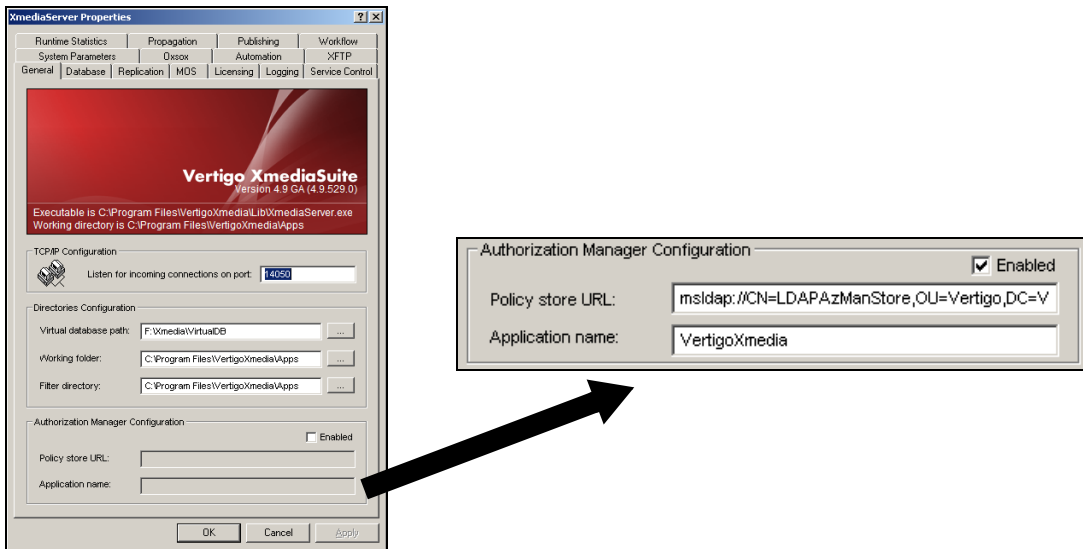

Figure 19-21. Authorization Manager Configuration settings on the Xmedia Server Control Panel
2. Select the **ENABLED** check box in the Authorization Manager Configuration section of the **GENERAL** page (figure 19-21).